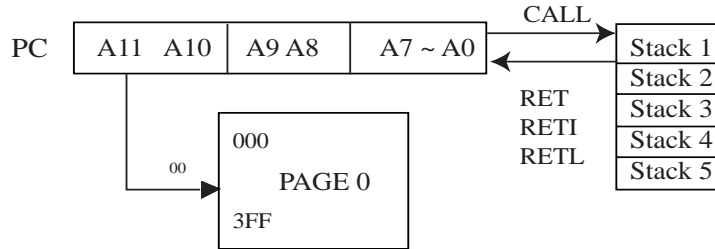

Fig. 3 Program counter organization
- R2 and hardware stacks are 10~12-bit wide. The structure is depicted in Figure 3.